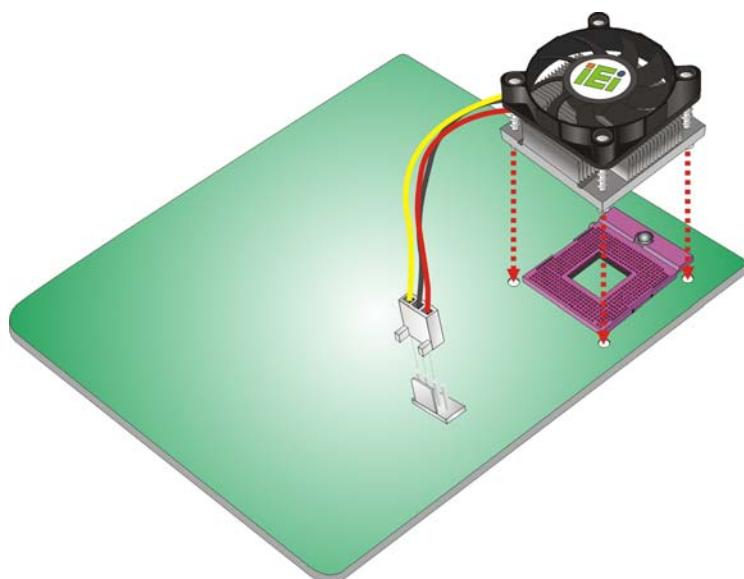

Figure 4-5: Align the Cooling Kit
Step 3: Properly align the cooling kit. Line up the four screws with the screw holes on the support bracket below the board (**Figure 4-5**).